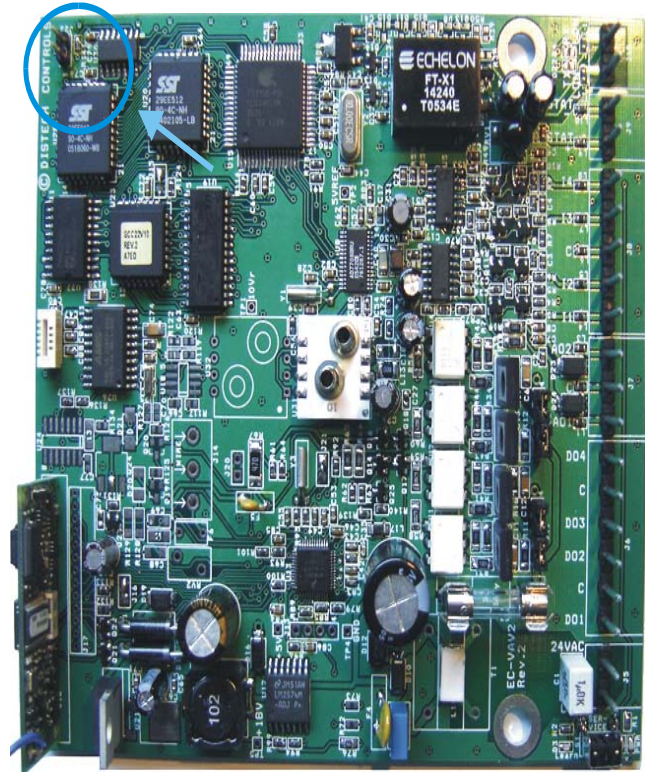

Figure 25: E-Blank Jumper (J22) Location
2. Place a jumper on the pins labelled J22 on the board (Figure 25).